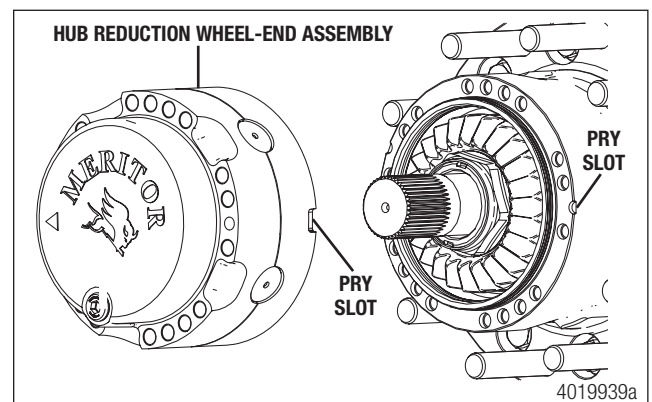

Figure 8
- c. Remove the hub reduction wheel-end assembly from the hub. If necessary, insert a pry tool in the slot and loosen the assembly from the hub. Figure 8.